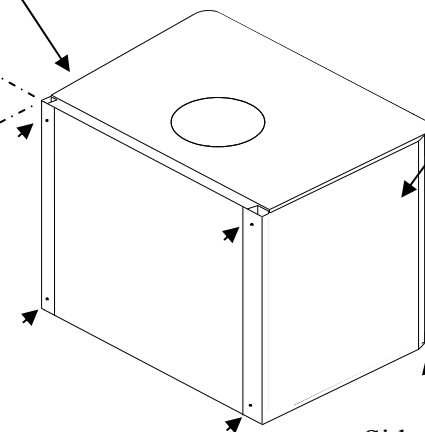

Figure 11b
2. Insert front end of side shield behind side angle on front side of stove. Align top of side shield with top of rear shield. Mark holes on rear shield thru holes in rear of side shield. Using four self tapping screws, drill four holes in the locations marked. Tighten bottom screws and leave top screws loose for step 3. Use same step to install side shield on opposite side of stove. (See figure 11b).